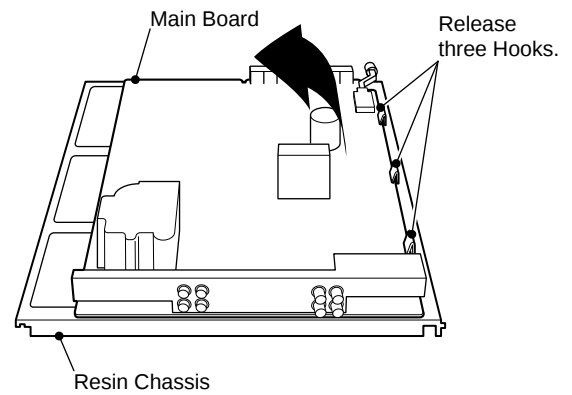

Fig. 4
- Referring to Fig. 4, remove the Main Board while releasing three hooks.